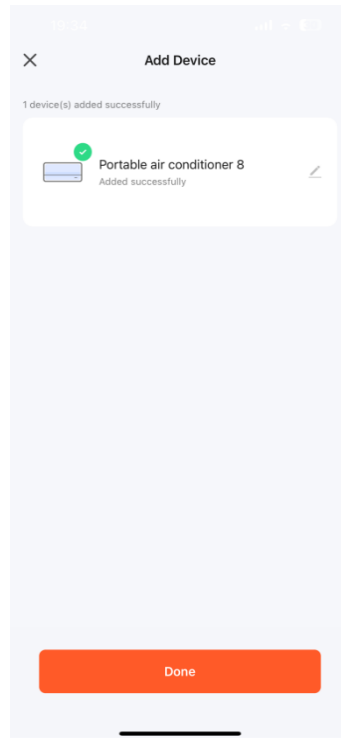

Fig.8
- 3.8. Now you can operate your device in the control interface. Tap buttons to set your appliance. (Fig.8)